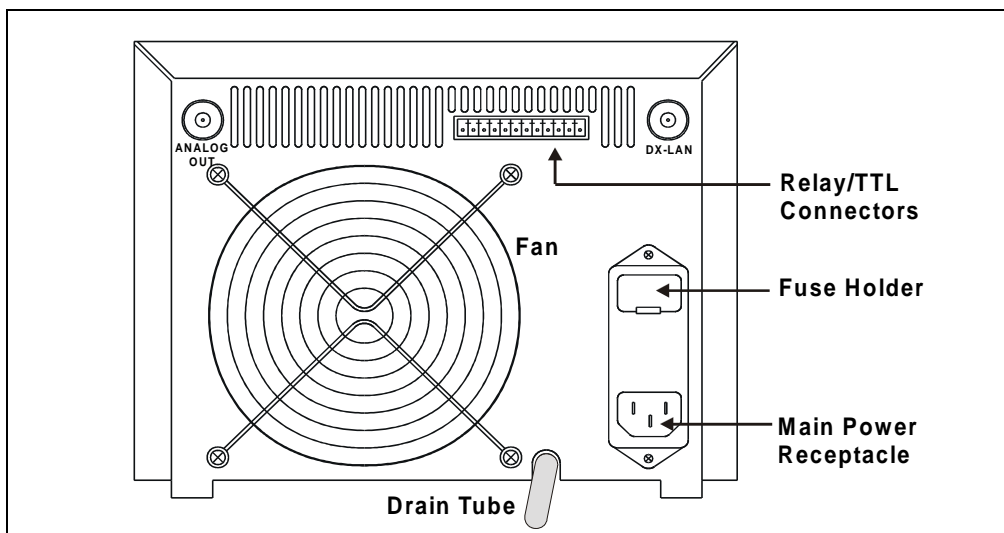

Figure B-2. AD25 Rear Panel
To implement: Connect a modular power cord (IEC 320 C13) from the AD25 main power receptacle (see Figure B-2) to a grounded, single-phase power source. Use the AD25 power switch actuator (see Figure 2-1) to turn the detector on and off.
To implement: Locate one of the IEC jumper cables (P/N 960748) provided in the LC30 Ship Kit. Connect the jumper cable from the AD25 main power receptacle (see Figure B-2) to an IEC auxiliary receptacle on the LC30 rear panel. Leave the AD25 power switch on continuously, and use the LC30 main power switch to turn the detector on and off.
A drain tube is connected to the AD25 rear panel (see Figure B-2). Place the free end of the tubing in a waste container below the level of the lab bench on which the AD25 is installed.
Connect a recorder or an integrator to the **ANALOG OUT** connector on the AD25 rear panel (see Figure B-2).
- a. Note the two small locking pins on either side of the **DX-LAN** connector on the AD25 rear panel (see Figure B-2).